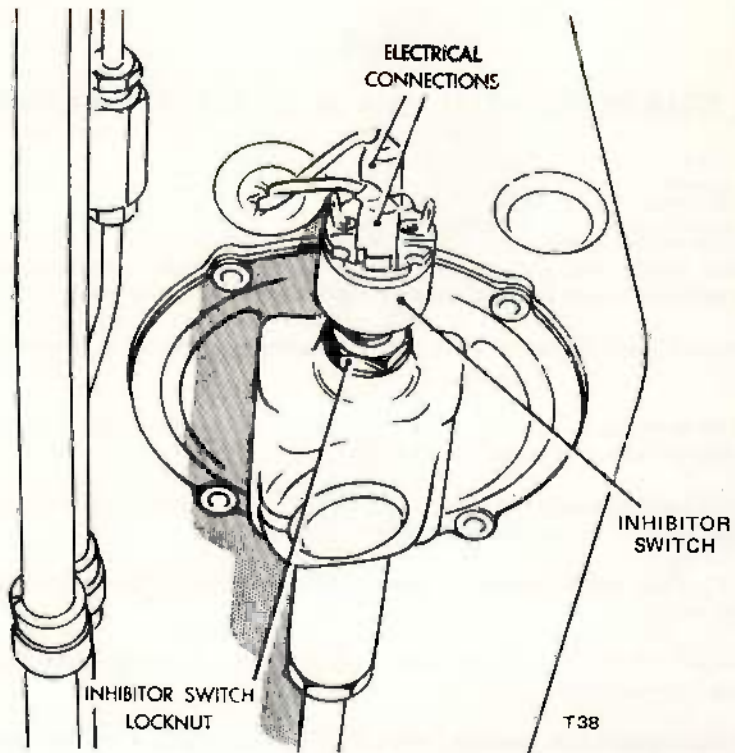

FIG. 62 SHOWS THE POSITION OF THE INHIBITOR SWITCH ON 1100 AND 1300 MODELS.
**CHECKING.** If there is no apparent cause of the starter failing to energise with N selected, or it operates in other gear positions, the starter inhibitor switch in the base of the selector turret, FIG. 62, needs adjustment.